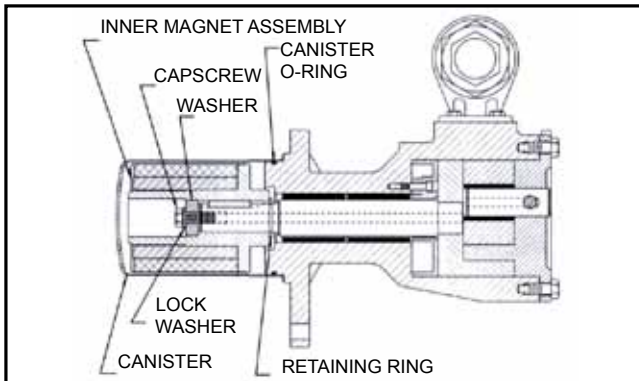

FIGURE 37
1. Inspect the magnets for any steel objects attached to the magnets. Remove any foreign material. Place the external retaining ring and key on the pump shaft. Slide the inner magnet assembly onto shaft so it butts against retaining ring. Install the washer, lock washer and capscrew to secure the magnet. **See Figure 37.** Insert a brass bar through a port between two rotor teeth and tighten the capscrew.